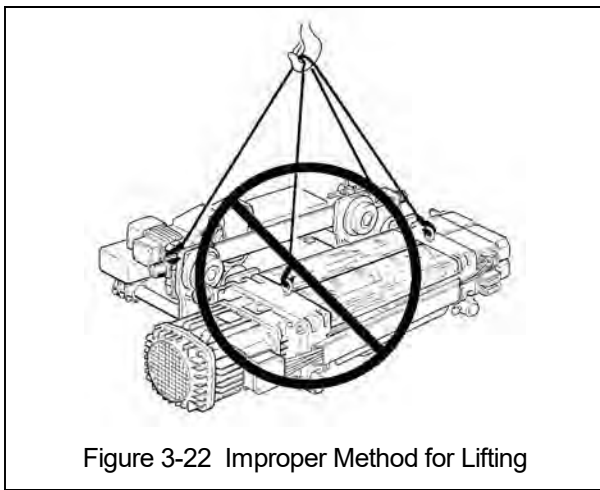

Figure 3-22 Improper Method for Lifting
- 7) **⚠ WARNING** When installing the trolley hoist on a beam, ALWAYS raise the hoist into position with the trolley and hoist assembled together and securely attached to a pallet. Raise the trolley and hoist with a forklift, lifting platform, or other similar means. NEVER use slings to raise and install the trolley hoist onto the beam (see Figure 3-22).